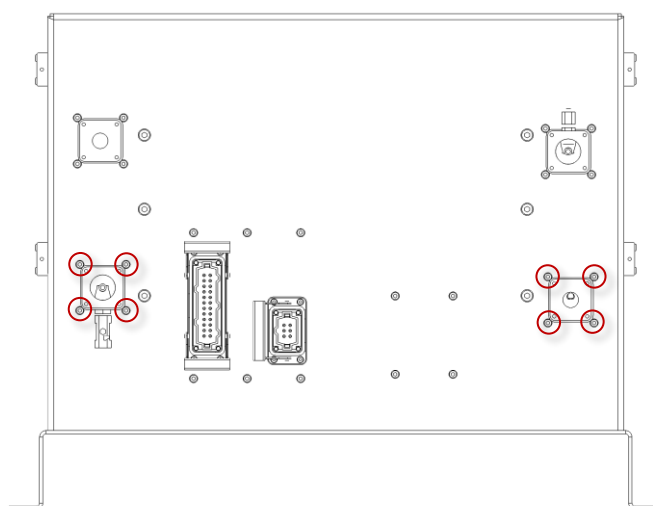

Figure 74 Loosen screws at the back of the generator
8. Loosen the screws around water in and ozone out connections at the back of the generator, see red highlighting in Figure 74.